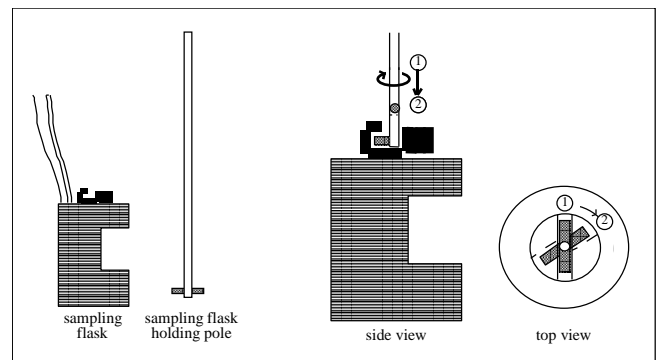

Figure 2: Sampling flask
9. Place the sampling flask in the appropriate position using the holding pole (figures 2, 3 and 4).
10. Set the sampling flask in the appropriate position using the holding pole (figures 2, 3 and 4).